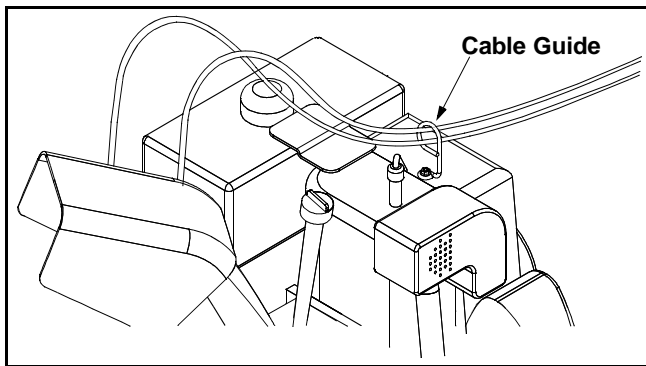

Figure 5
- If not already attached, slip the cables that run from the handle panel to the chute into the cable guide on top of the engine. See Figure 5.